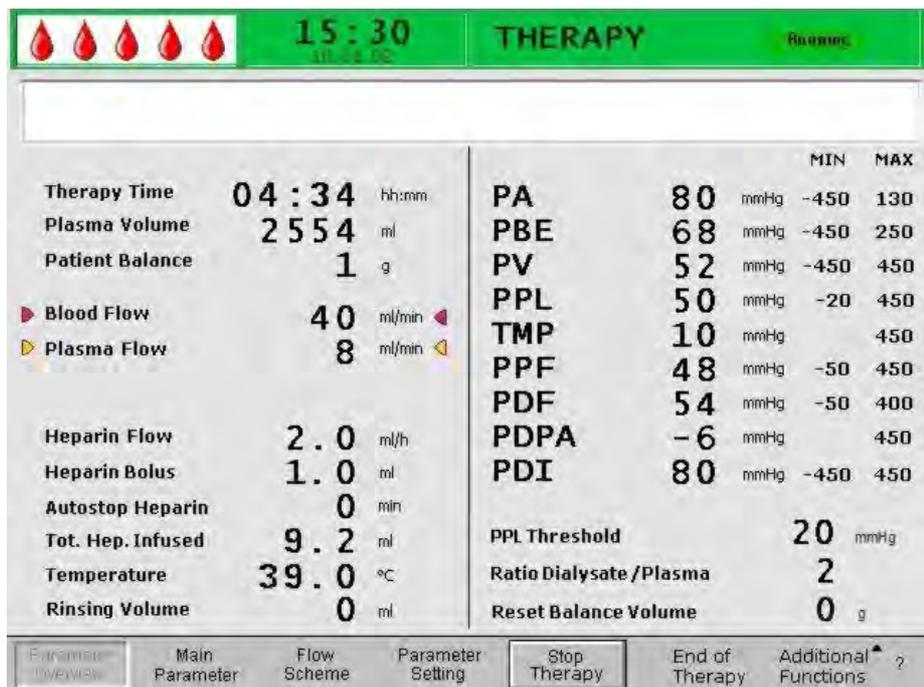

Fig. 3-12 Parameter overview screen
- Parameter overview screen (Fig. 3-12)